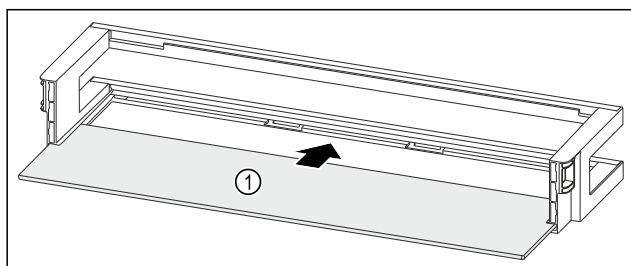

Fig. 100 Door racks with shelf
- ▶ Push the shelf Fig. 100 (1) into the side recesses.